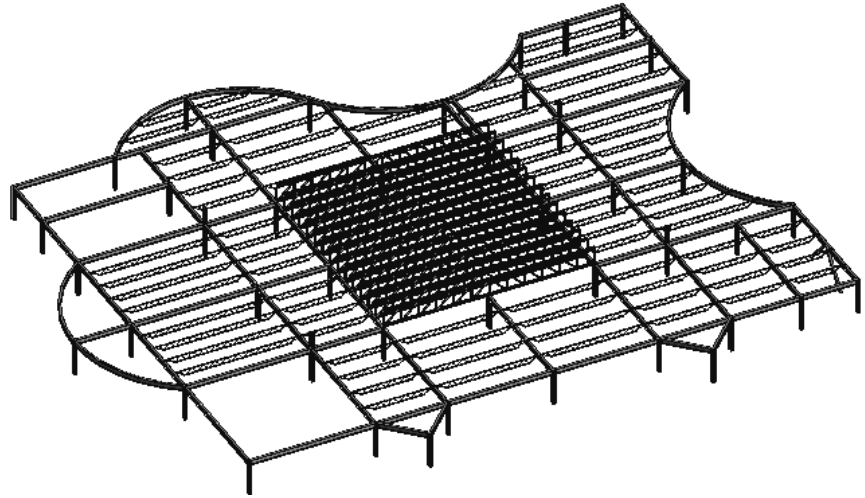

Figure 7-71
11. Open the **3D Views: Roof and Skylight** view and rotate the view to display the trusses, as shown in Figure 7-71.